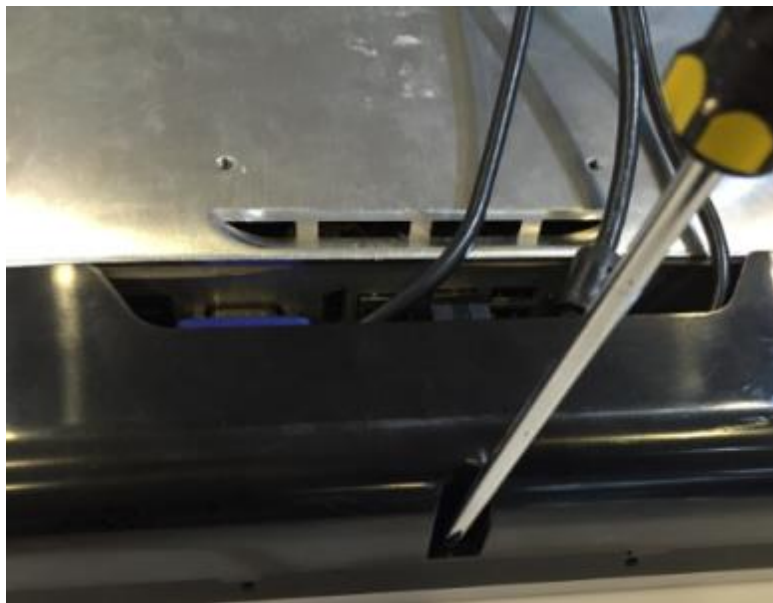
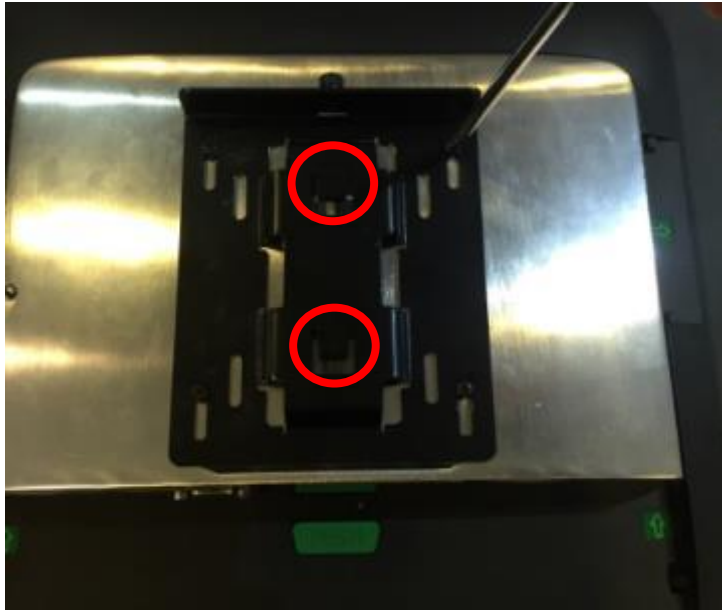

Figure 22. screw location of cable cover
Figure 23. Wall mount kit with box (Red circle indicated for anchor point of assembling)
4. Assembly two parts of wall mount kit (Refer to Figure 22 & Figure 23).